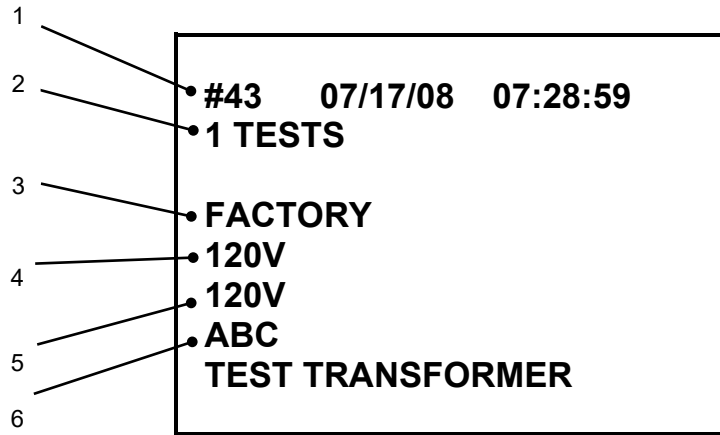

Figure 50.0 Restored Record Status Display
- b. **Origin:** Selecting menu option 1 (“YES”) from the “Restore Record Status Display” (Figure 50.0).